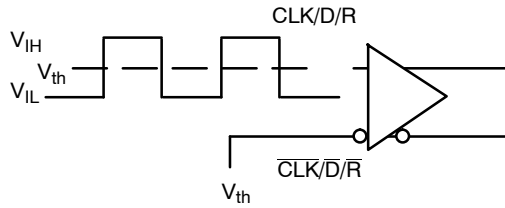

Figure 4. Differential Input Driven Single-Ended
**DIFFERENTIAL INPUT DRIVEN SINGLE-ENDED (Figures 4 & 7)**
| $V_{OUTPP}$              | Output Voltage Amplitude (@ $V_{INPPmin}$ )(Note 10) (See Figure 4)$f_{in} \leq 2.0 \text{ GHz}$$f_{in} \leq 3.0 \text{ GHz}$$f_{in} \leq 4.0 \text{ GHz}$ | 530490380 | 770720580 |      | 530490380 | 780730580 |      | 530490380 | 760680530 |      | mV   |